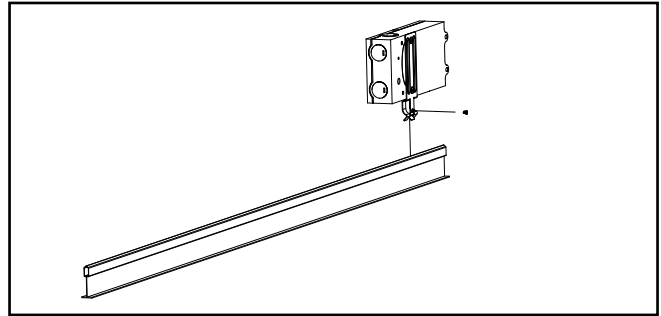

Figure 3.
4. Clamp the power supply on the t-grid and install the screws to secure it. See Figure 3.